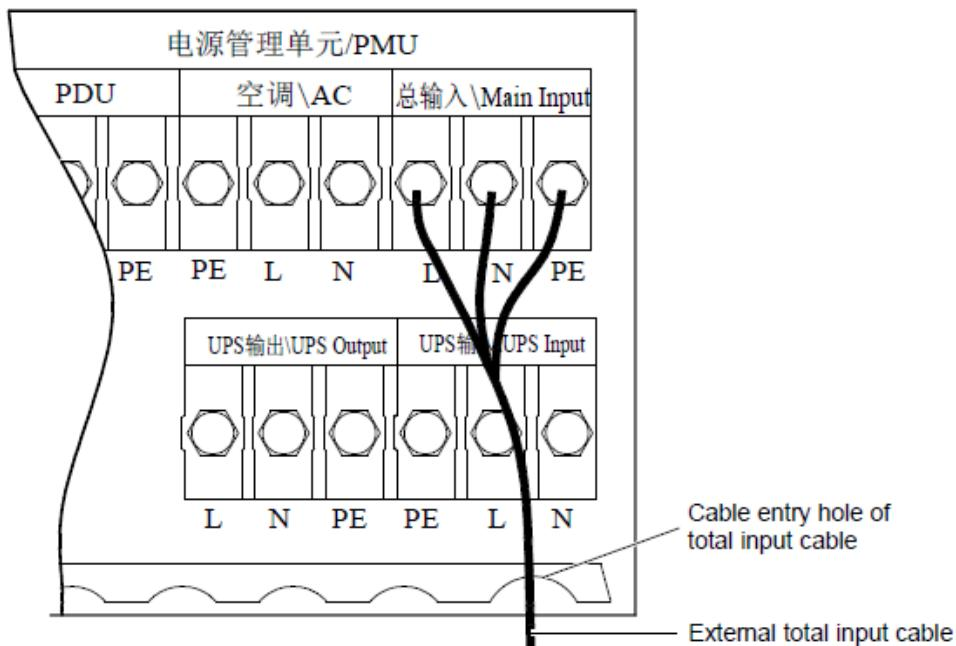

Figure 2-37 Connecting the Total input cables
2. Open the cover plate on the back of the PMU followed by connecting the prepared cable to the total input position of the PMU connecting terminal block as shown in Figure 2-37.